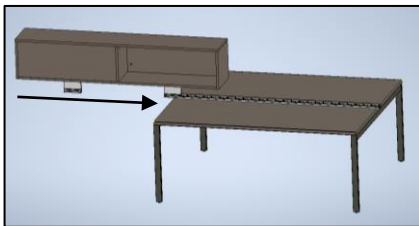

Figure 2
2. Slide extrusions on the bottom of the storage units into the rail until the unit is centered (Figure 2 & 3)